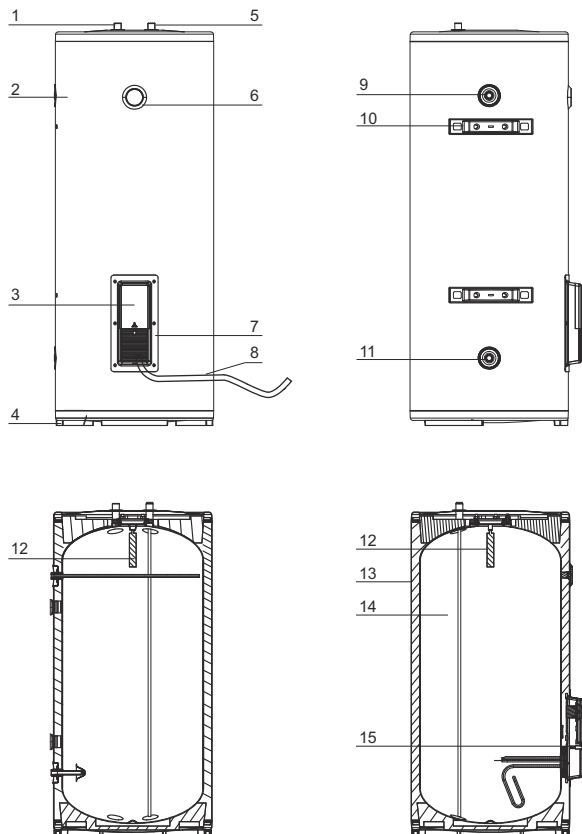
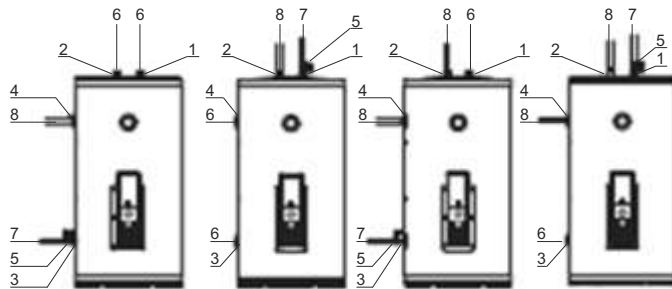

Fig. 2
Fig. 4
The water heater design is shown in Figure 2.
3. For convenience of connection to water supply network, the water heater design provides for 2 inlet and 2 outlet nozzles. Inlet nozzle «I» and outlet nozzle «I» are situated in upper part of the water heater. Inlet nozzle «II» and outlet nozzle «II» are situated on the left side of the water heater (see Fig. 2). Options of possible connection of the water heater to the water supply network are shown in Figure 4.
4. Depending of delivery lot, there may be additional fixing of the water heater on the wall using support arms, while connecting the water heater to the water main with the use of upper nozzles (see Fig. 2).
4. Define an inlet nozzle and outlet nozzle or 2 outlet nozzles (see Fig. 4) needed for connection to the water main. After that fasten a packing on unused nozzle(s).